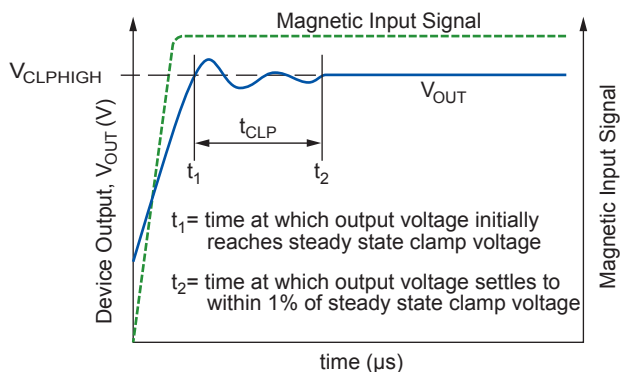

Figure 2. Definition of Delay to Clamp,  $t_{CLP}$
**Delay to Clamp.** A large magnetic input step may cause the clamp to overshoot its steady state value. The Delay to Clamp,  $t_{CLP}$ , is defined as the time it takes for the output voltage to settle within 1% of its steady state value, after initially passing through its steady state voltage, as shown in figure 2.